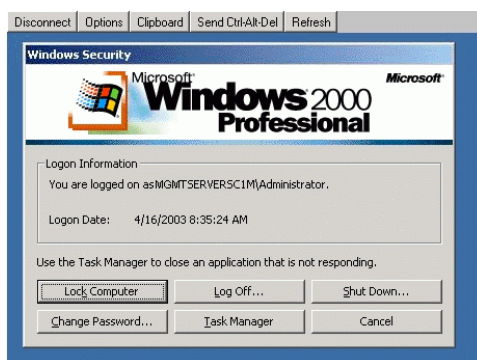

Figure 2-22 Windows Security Dialog Box
1. Click the **Send Ctrl-Alt-Del** button at the top of the window surrounding the *Users and Passwords* dialog box. The *Windows Security* dialog box displays (Figure 2-22).